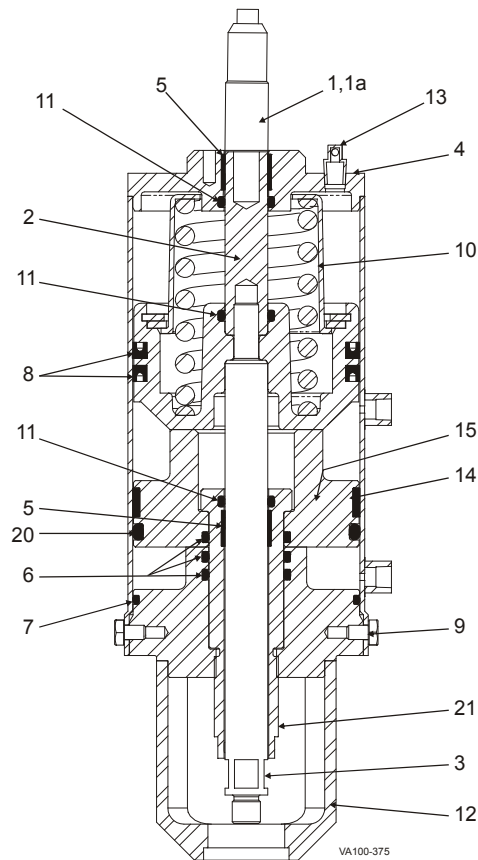

Figure 38: 4" Air-to-Raise 3-Position Actuator
1. Inspect the upper piston U-cup seal (Figure 38, item 8).
2. Remove the worn U-cup seal. Do not score or nick grooves in the piston (item 10).
5. Inspect the lower piston o-ring (item 20), stem o-ring (items 6 and 11) and yoke o-ring seals (item 7).
6. Remove the worn o-ring seals. Do not score or nick grooves in the piston (item 15).
9. Inspect and replace the PTFE guide bearings (items 14 and 5) as needed.
10. Place the outer stem (item 21) in the lower piston.
11. Screw the outer stem into the yoke (item 12).